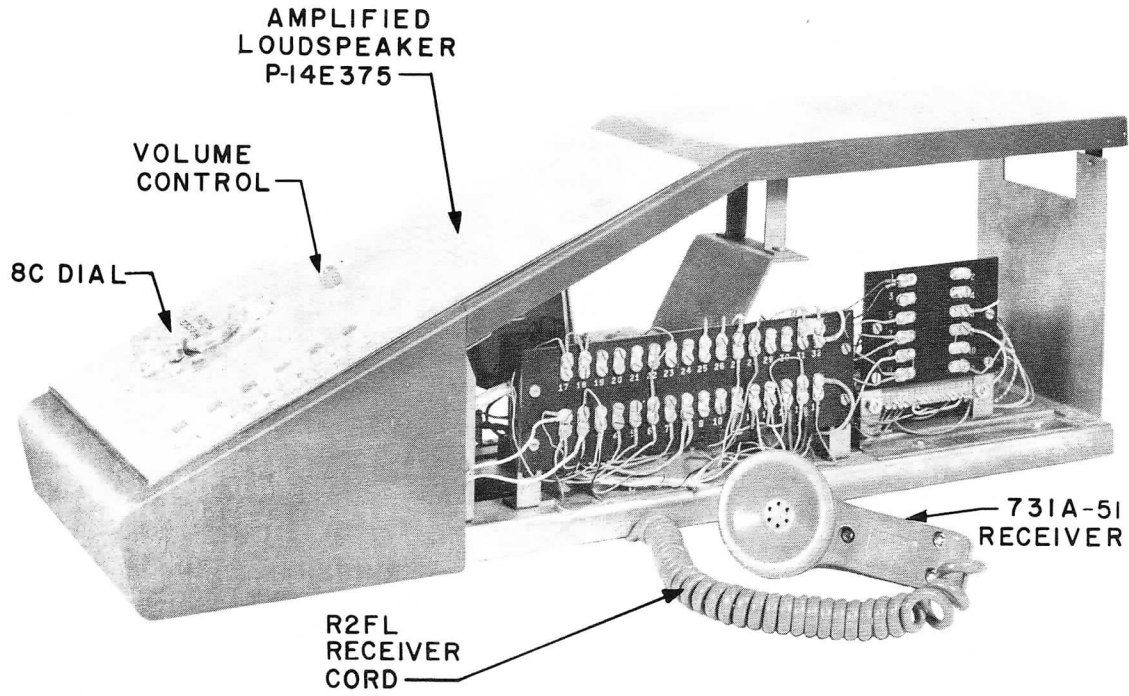

Fig. 5 — 689C Subscriber Set
**2.05** This set has the same general appearance as the 689A but is equipped with a loud-speaker and amplifier (Fig. 5).